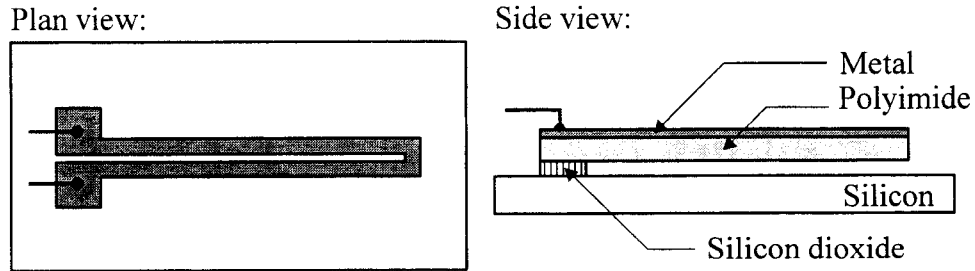

Figure 8
8. (a) Figure 8 shows an electrothermal actuator comprising a polyimide cantilever with a thin metal film heater on its upper surface. Suggest a possible fabrication sequence for this device, assuming the polyimide is deposited as a continuous film and patterned by reactive ion etching using the metal as a mask. [4]